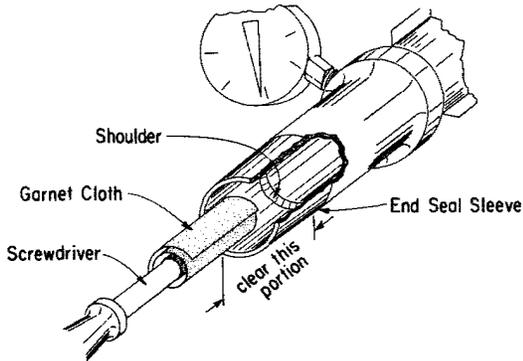

Fig. 4
- (a) Cut transmission line as outlined in (A), Step (a).
- (b) Prepare end seal by thoroughly cleaning inside sleeve to shoulder, which is located at opposite end from insulator cap, with piece of garnet cloth placed on a screw driver. Rotate garnet cloth on inside surface of sleeve until every trace of foreign matter has been removed and a bright finish obtained. See Fig. 4.
- (h) Clean and brighten the inside of inner conductor, using piece of garnet cloth prepared as shown in Fig. 4. Work the cloth in and out of tube with a rotary motion until brightness is obtained.